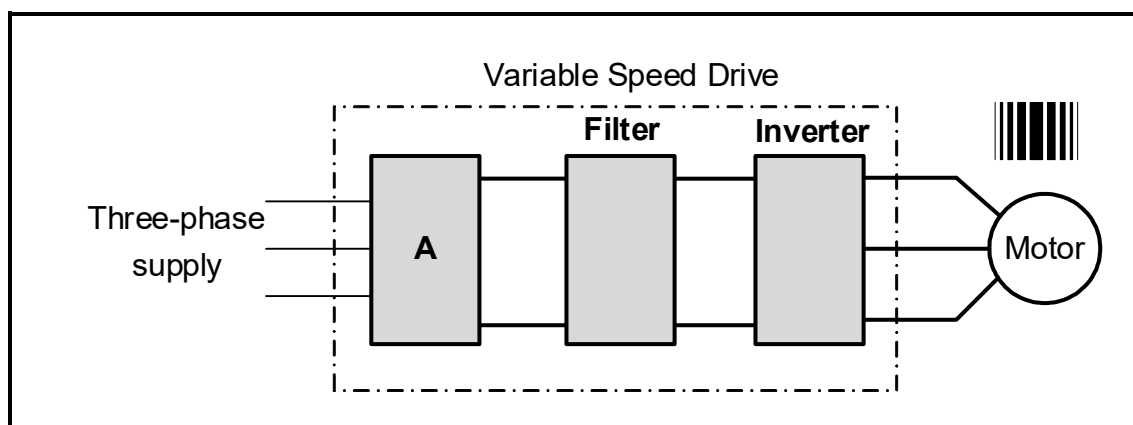

FIGURE 7.9: BLOCK DIAGRAM OF VSD
7.9 Refer to FIGURE 7.9 below and answer the questions that follow.